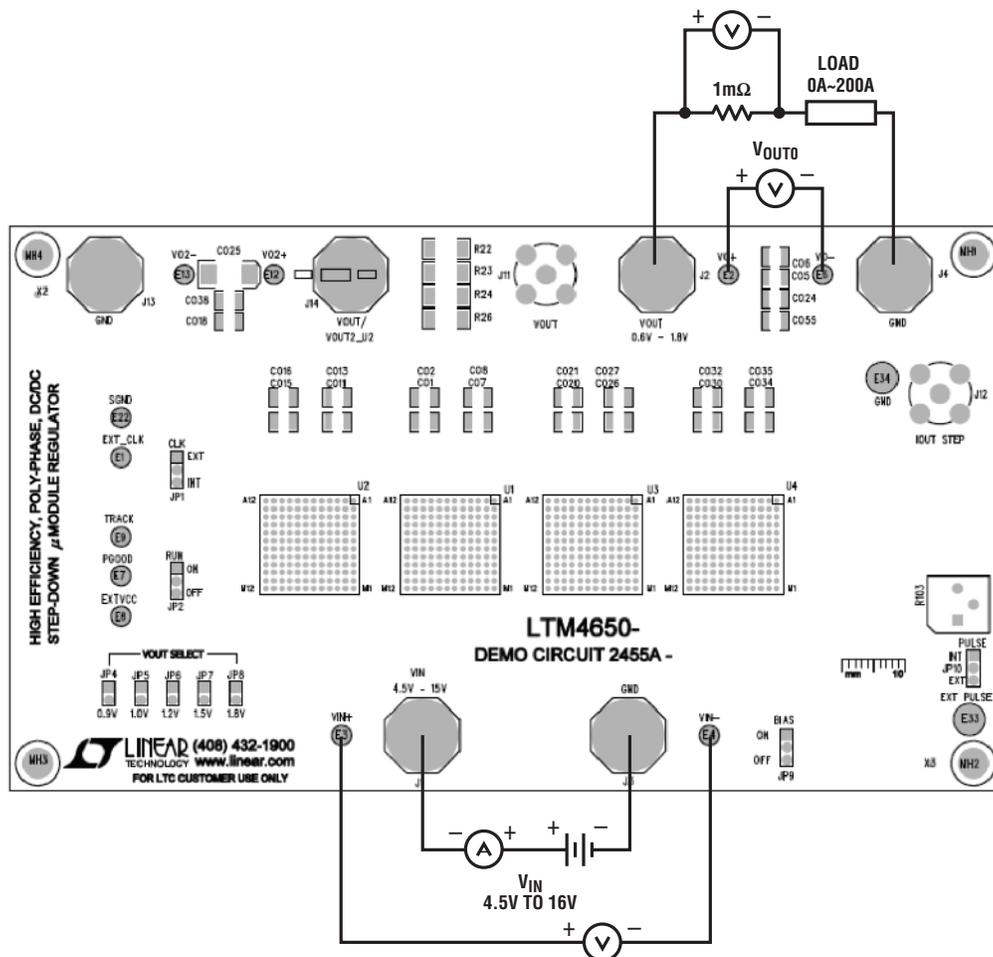

Figure 2. Test Setup of DC2455A-C
Demonstration circuit DC2455A-C is easy to set up to evaluate the performance of PolyPhase operation of the LTM4650EY-1. Due to the high input/output current, user should select the proper input supply/load/cable which can sustain the full load operation. It's recommended to pull load current from J2 and J4. The load current pulled from J5 and J6 shouldn't exceed 25A. Please refer to Figure 2 for proper measurement setup and follow the procedure below:
2. With power off, connect the input power supply, load and meters as shown in Figure 2. Preset the load to 0A and V_{IN} supply to 12V.